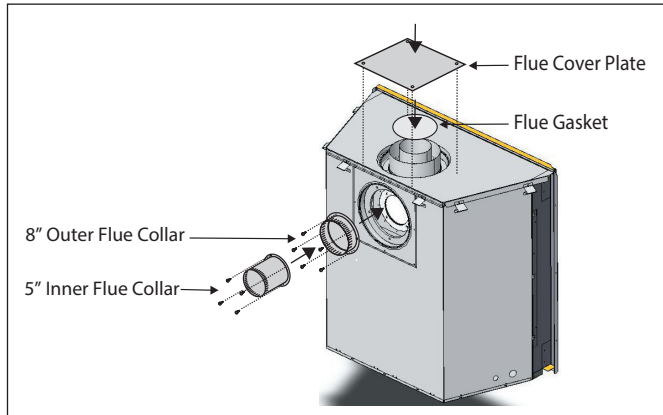

Figure 8a. Flue cover and collar installation, Rear Vented fireplace.
3. Install the (removed) Rear flue cover and gasket material, to the Top vent outlet. Fasten the cover with included hardware, as illustrated *Figure 8a*.
4. Install the (5" and 8") collars to the rear vent outlet using the included hardware, as illustrated *Figure 8a*.